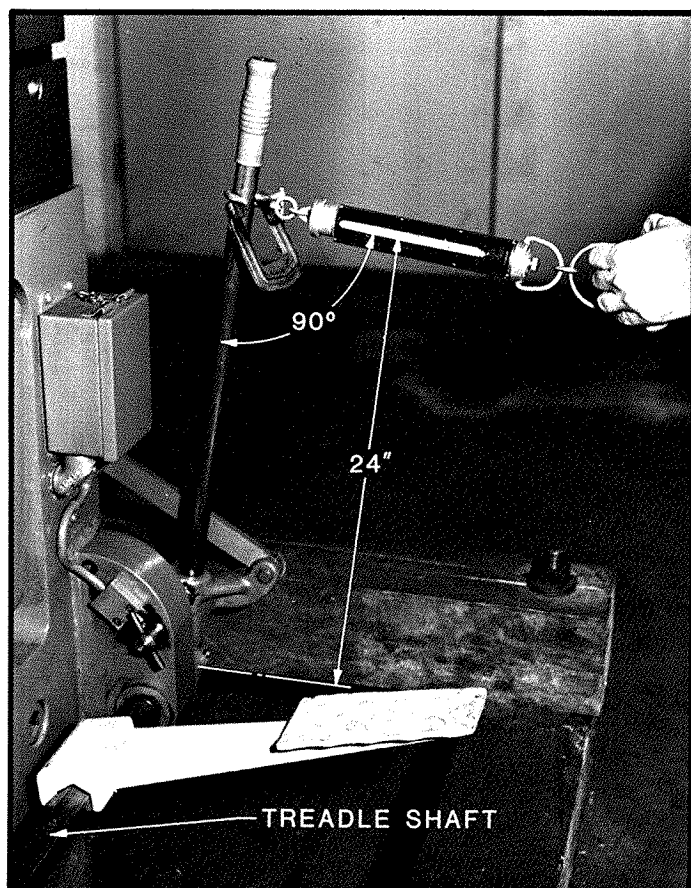

FIGURE 86
2. Clutch adjustment is also checked by using a spring scale and a 1" diameter bar. See Figure 86. Insert bar in hole of casting on right end of the treadle shaft. Attach spring scale to the bar 24" above the centerline of treadle shaft.